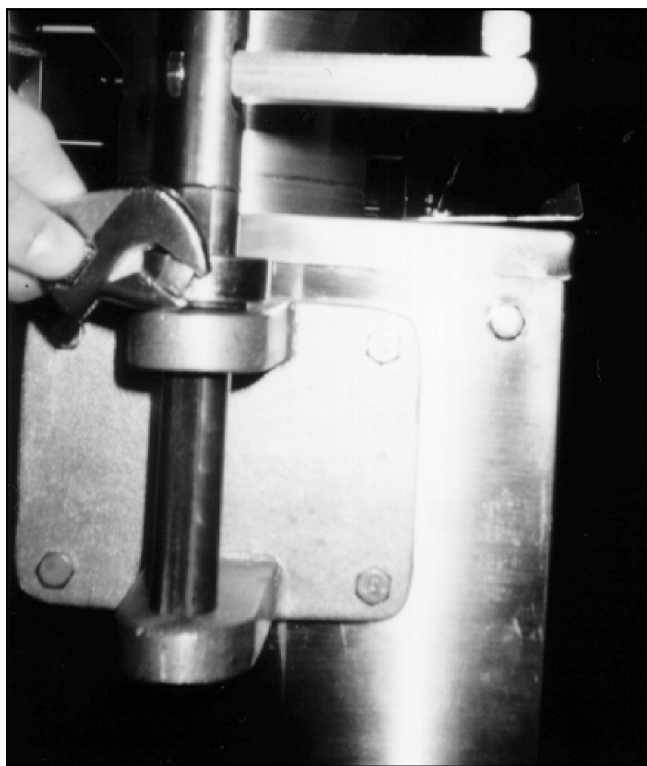

Figure 1-8. Adjusting the Height of the Hopper.
- d. Tighten the set screw. See Figure 1-8.